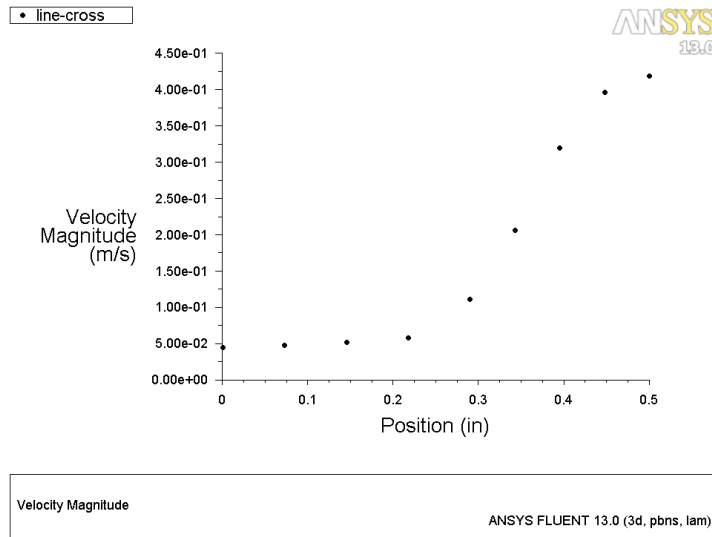

Figure 6: Cross-Stream Velocity Magnitude Profile at $x = 3.5$ in, $y = 0.25$ in
- (c) Ensure line-cross is selected from the Surfaces selection list and click Plot (Figure 6).
Figure 6 shows the predicted cross stream velocity profile behind the block. Flow details are smeared due to the relatively coarse mesh used. The mesh is currently too coarse to resolve the flow details accurately.